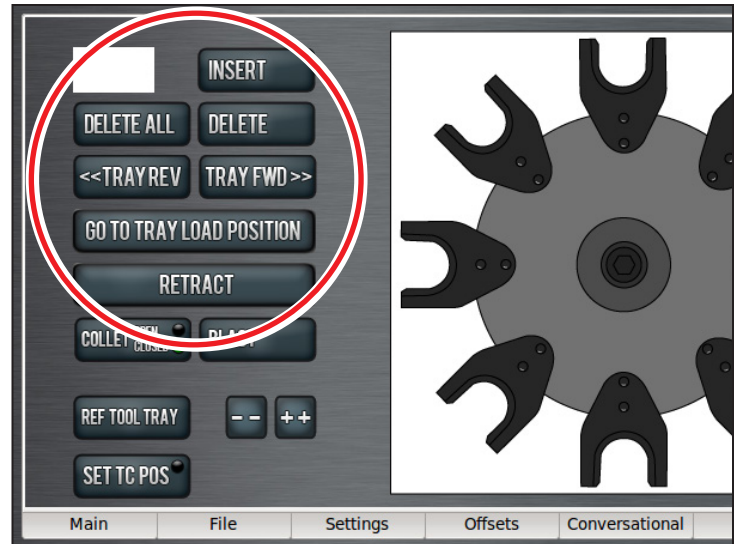

Figure 37
1. From the PathPilot interface, on the *ATC* tab, type the tool number into the *Insert* DRO field (see **Figure 37**). Press *ENTER* on the keyboard.
2. Click the *Go To Tray Load Position* button (see **Figure 37**).
3. Click the *Delete* button (see **Figure 37**).
4. Click the *Tray FWD* button or the *Tray REV* button (see **Figure 37**).
5. Click the *Retract* button (see **Figure 37**).